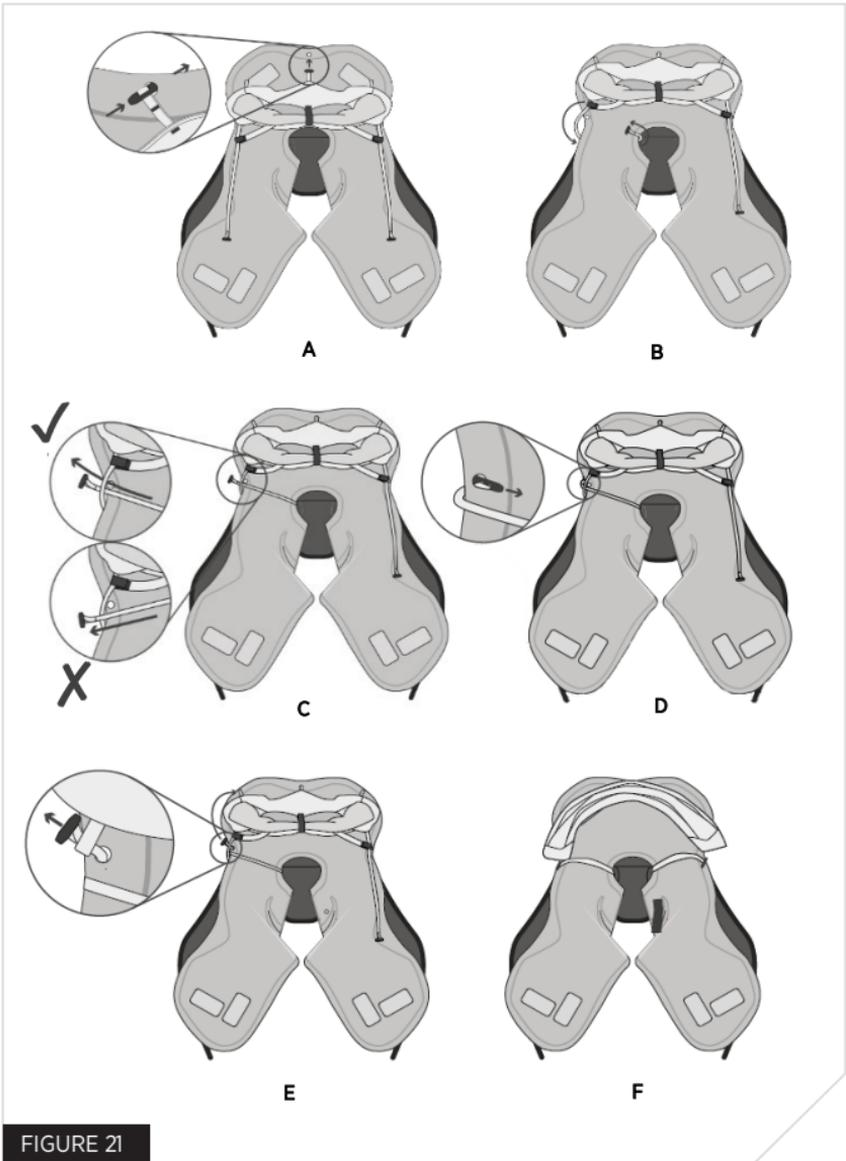

FIGURE 21
2. Locate the toggle at the top of the hood and put it through the punched hole on the top of the bladder (Fig. 21, A)
3. Locate the toggles on each side of the hood. Follow Fig. 21, B - F. Repeat on both sides.